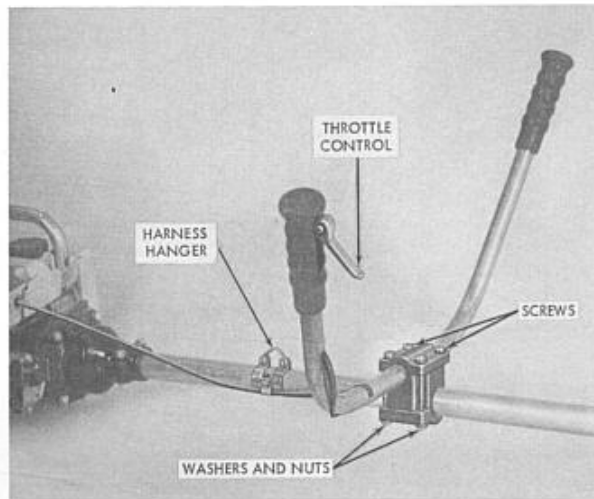

Figure 9. Handle Bar Installation
7. Assemble the handle bar on the drive shaft housing as shown in Figure 9 with four 1/4-20 x 3-1/4-inch screws (P/N 102127), four 1/4-inch plain washers (P/N 100004), four 1/4-inch lockwashers (P/N 100153) and four 1/4-20 inch nuts (P/N 101143). The handle bar must be positioned for the best balance of the Drive Unit. Note that the throttle control is on the right hand up-right and that the bar is mounted off-center to the left.